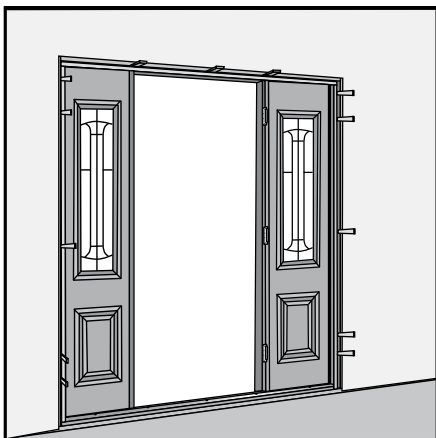

Fig. 22
B. SYSTEMS 4 & 5 (**Fig. 22**); additional shimming as follows:
- Anchor jamb legs by driving a minimum of two 3" finish nails through the exterior face of the jamb into the stud at both 2" and 30" from the top and bottom of the unit (**Fig. 28**). Refer to **Fig. 22** for nailing locations. Additional anchoring locations may be necessary depending on size of the unit.